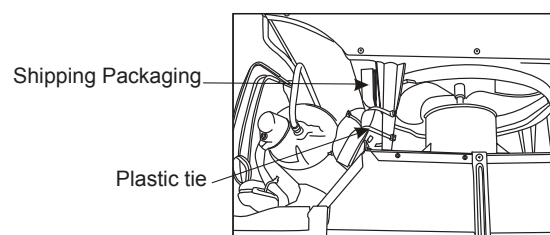

Fig. 7
10. Your unit may come with internal packaging. This packaging **MUST** be removed prior to installing the air conditioner back into the cabinet. (See Fig. 7.)
Refer to Step 5 of Window Mounting for assembly of support brackets. A wooden strip nailed to the outside wall should be used in conjunction with sill support angle brackets. (See Fig. 7.)